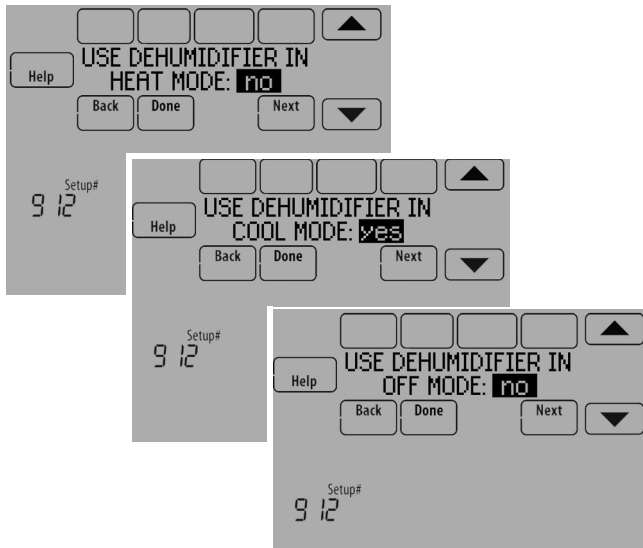

Fig. 151.
3. Select the system mode(s) to allow dehumidification. See Fig. 151.